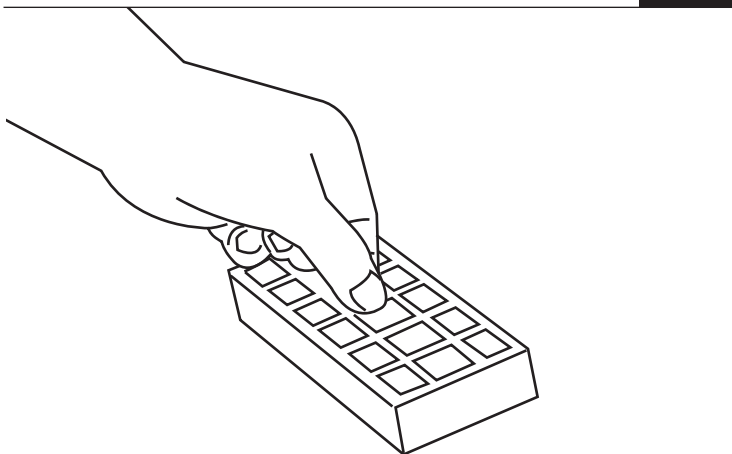

FIG. 20
Step 3: On some models, remove filter pad and shake to remove excess dust. If necessary this pad can be cleaned by vacuuming with another cleaner (FIG. 20).